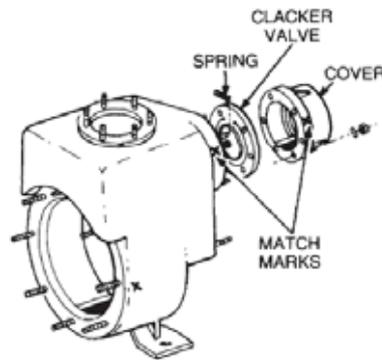

Figure 34 Suction Cover Removal
- w. Match mark the suction (inlet) cover to the bottle (Figure 34), then remove the six nuts and washers securing the cover to the bottle.